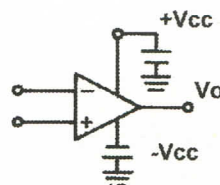

Fig 14.11
3. OPA typically incorporates two power supplies with same magnitude and different polarities, usually  $\pm 3V \sim \pm 24V$  wherein  $\pm 12V$  is most widely used. The connection is shown in Fig 14.11.